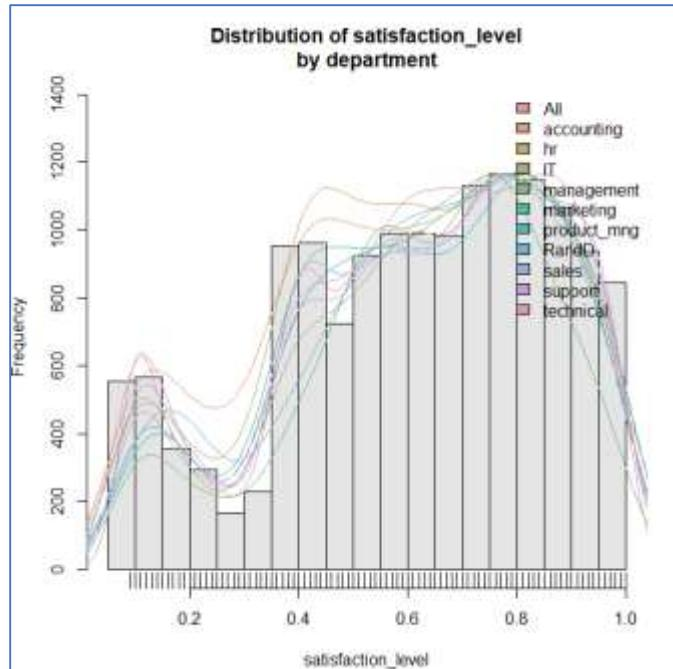
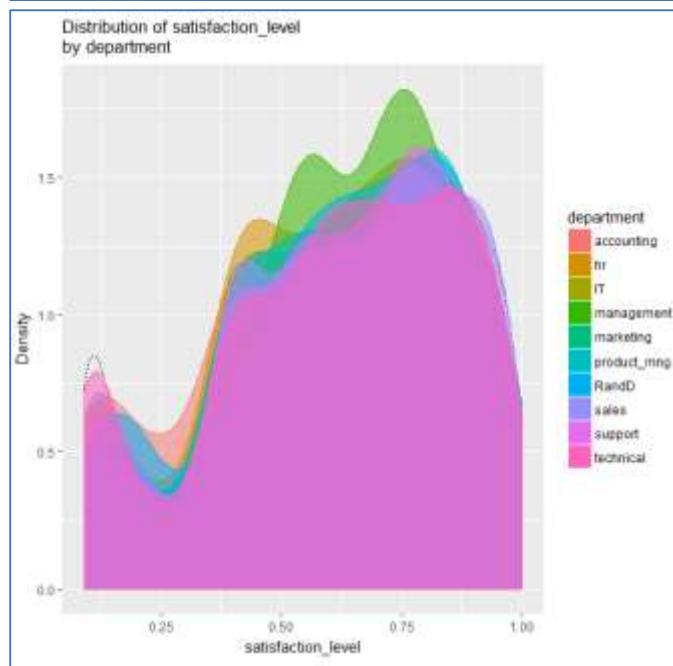

Fig. 2
Fig. 3
- **Satisfaction Level vs Department:** There is higher satisfaction in management employees compared to other employees. Technical employees seem to have least satisfaction amongst all other departments. Fig 2. and Fig. 3 illustrate the aforementioned inference.